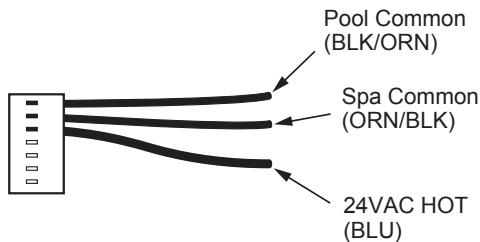

Figure 48. 7-Pin Remote Interface Harness
5. On the "Remote Interface Harness", connect the BLUE wire to one side of the "REMOTE" switch and connect the other side to either the ORANGE/BLACK wire for "SPA" operation or the BLACK/ORANGE wire for "POOL" operation. See **Figure 48**.
4. On the "Remote Interface Harness" connect the BLUE wire to one side of the "REMOTE" switch and connect the ORANGE/BLACK wire for "SPA" operation and the BLACK/ORANGE wire for the "POOL" operation. See **Figure 48**.